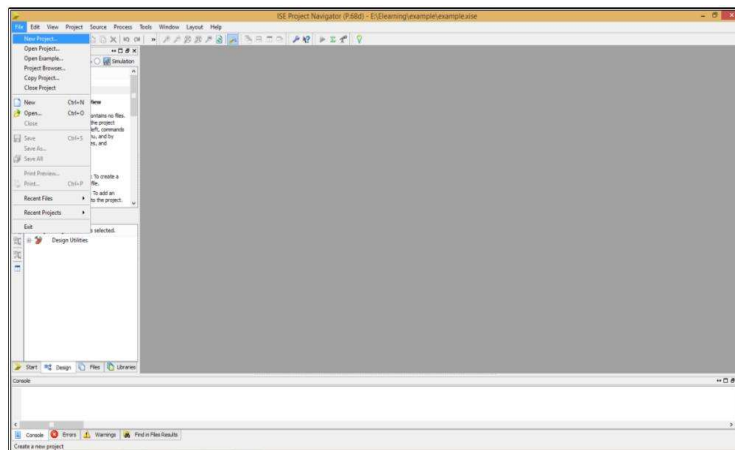

Fig 1.1: ISE Project navigator interface
2. The **ISE Design Suite 14.7** interface will be opened (Fig. 1.1). In **ISE Design Suite**, select **File => New Project**.